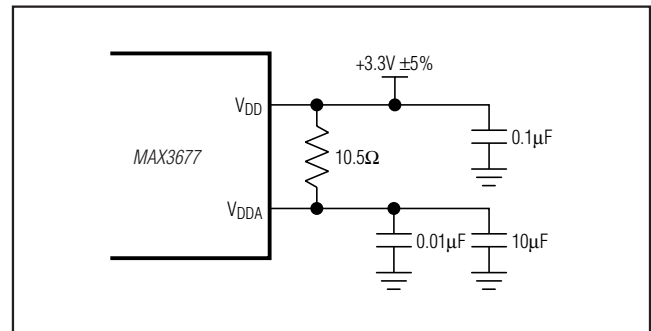

Figure 4. Analog Supply Filtering
- Note 1:** A series resistor of up to 10.5Ω is allowed between V_{DD} and V_{DDA} for filtering supply noise when system power-supply tolerance is $V_{DD} = 3.3V \pm 5\%$. See Figure 4.
The MAX3677 is a mixed analog/digital IC. The PLL contains analog circuitry susceptible to random noise. To take full advantage of on-board filtering and noise attenuation, in addition to excellent on-chip power-supply rejection, this part provides a separate power-supply pin, V_{DDA} , for the VCO circuitry. The purpose of this design technique is to ensure clean input power supply to the VCO circuitry and to improve the overall immunity to power-supply noise. Figure 4 illustrates the recommended power-supply filter network for V_{DDA} . This network requires that the power supply is $+3.3\text{V} \pm 5\%$. Decoupling capacitors should be used on all other supply pins and placed as close as possible to the pins for best performance.